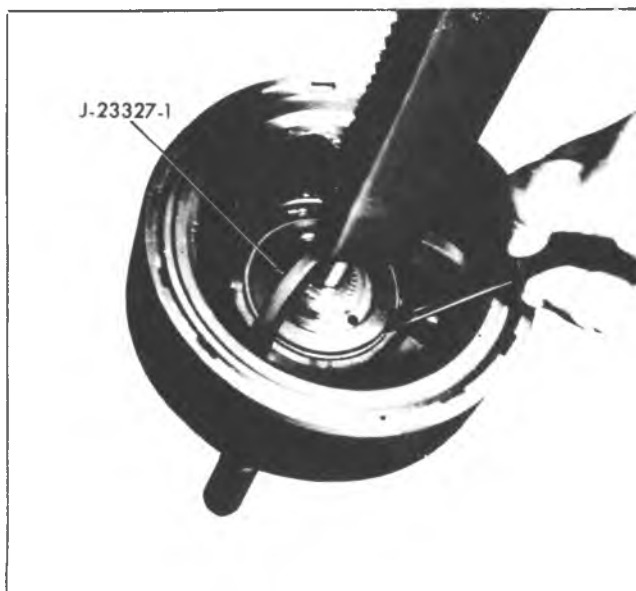

Fig. 7A-84B--Compressing Forward Clutch Piston Return Seat
6. Remove the forward clutch inner and outer piston seals (fig. 7A-85B).